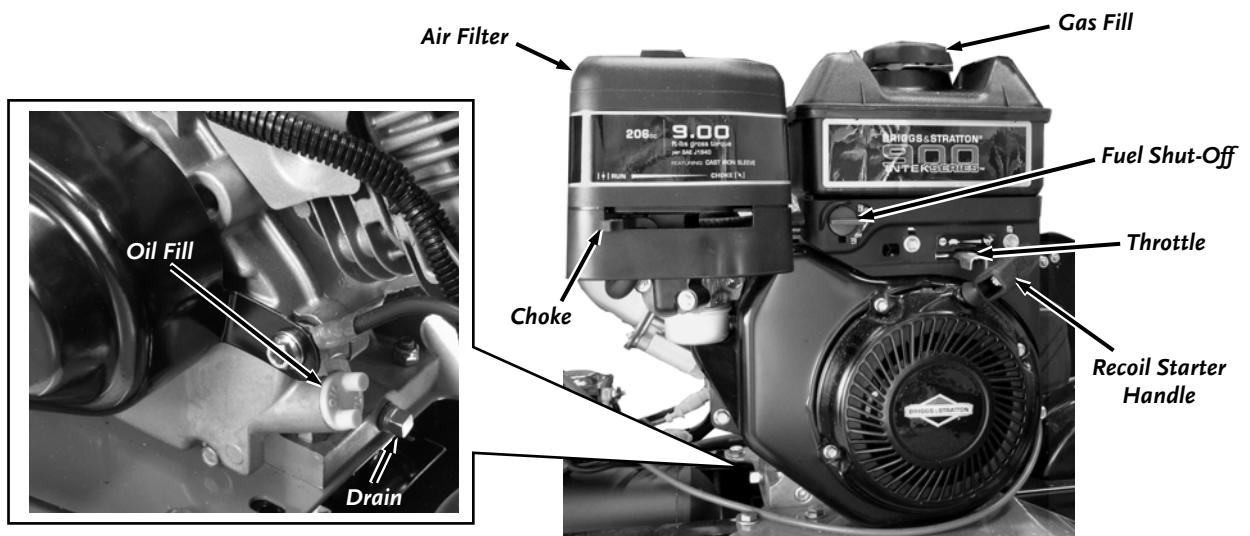

Figure 10
1. Place the machine on a level surface and initially add 16 oz. (1/2 quart) of SAE 30 High Detergent oil, recommended by the Engine Manufacturer, and wait one minute for the oil to settle (**Figure 10**).
3. Check the gasoline level (**Figure 10** on page 12).
6. Turn the Fuel Shut-Off to the ON position (**Figure 10** on page 12).
1. When starting a cold Engine, push the Choke Control Lever to the right (CHOKE) and the Throttle Control Lever to the far right FAST (RABBIT) (**Figure 10** on page 12) .
2. Grasp the Recoil Starter Handle (**Figure 10** on page 12) and **slowly pull until you feel resistance**, then pull the cord with a **smooth accelerating motion** to start the Engine. Do not let the Starter Handle snap back against the Engine. One or two pulls usually starts the DR ROTO-HOG Power Tiller.
2. Check the Engine oil level every time you use the machine (**Figure 10** on page 12).
3. After the Engine starts, slowly push the Choke Control Lever to the left (RUN) (**Figure 10** on page 12). Wait until the Engine runs smoothly before each Choke adjustment. For the best Engine performance, you should operate the Engine with the Throttle in the Fast (RABBIT) position (**Figure 10** on page 12).
1. When starting a cold Engine, push the Choke Control Lever to the far right (CHOKE) and the Throttle Control Lever to the far right FAST (RABBIT). (**Figure 10** on page 12).
3. After the Engine starts, slowly push the Choke Control Lever to the left (RUN) position (**Figure 10** on page 12). Wait until the Engine runs smoothly before each Choke adjustment. For optimum performance of the DR ROTO-HOG Power Tiller, you should operate the Engine with the Throttle in the Fast (RABBIT) position (**Figure 10** on page 12).
Manual Start model: Move the Throttle (**Figure 10** on page 12) all the way back to the STOP position.
Electric-Start model: Move the Throttle (**Figure 10** on page 12) all the way back to the STOP position, or; move the Throttle to the SLOW (Turtle) position and turn the Key to OFF.